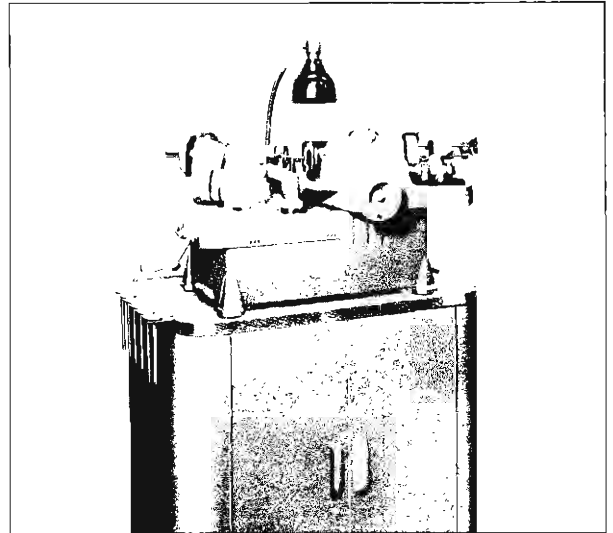

Fig. 21—Valve Refacing Machine
1. If necessary, dress the valve refacing machine grinding wheel to make sure it is smooth and true. Set chuck at 45° mark for grinding valves (fig. 21.)